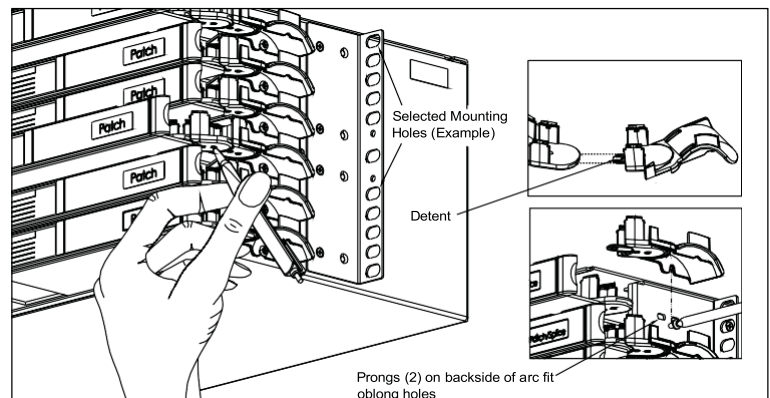

Figure 20 - Disconnecting Linkage Using a Pen Point
- Use a pen or a drift pin (less than 3 mm (~.125 in.) in diameter), insert the point through the hole under the selected link and gently push up while pulling the links apart. See Figures 20 and 21.